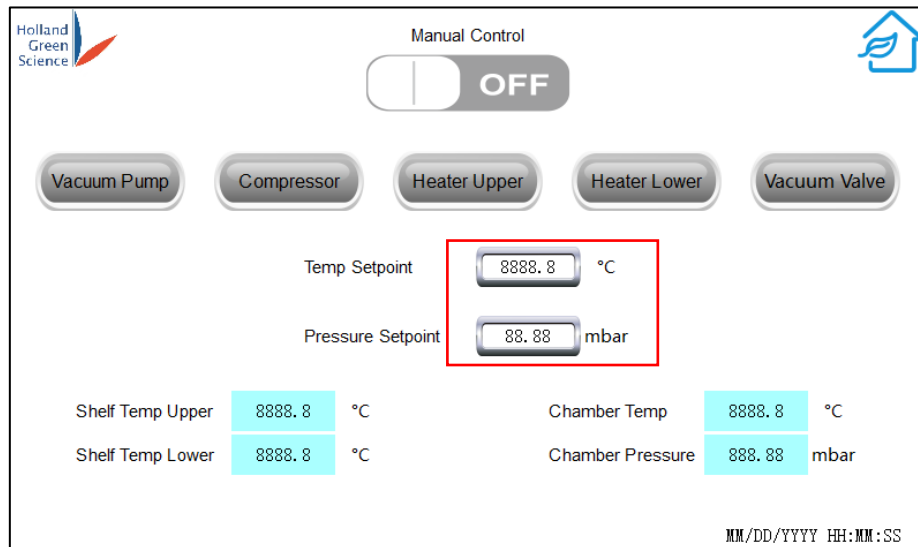

Figure 14
- Temperature and pressure setpoints can be specified for the freeze dryer to maintain (if enabled). Note, for the freeze dryer to maintain the pressure setpoints, enable with the Vacuum Pump and Vacuum Valve (Figure 14).